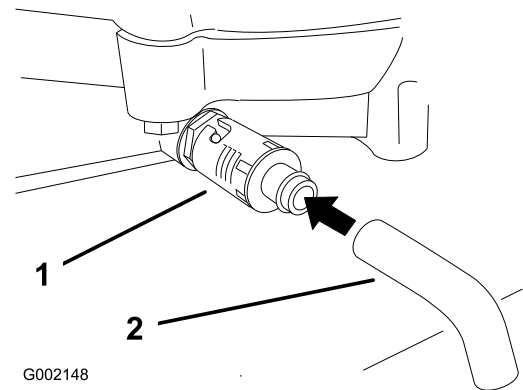

Figure 23
4. Place a pan below the drain. Rotate the oil drain valve to allow the oil to drain (Figure 23).